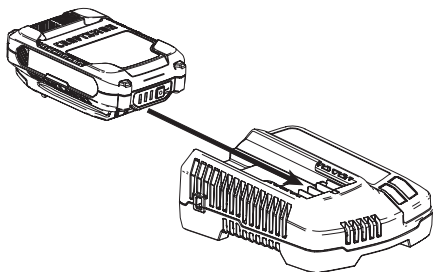

Figure 45
**IMPORTANT!** Refer to instructional manual supplied with battery charger for charging, maintenance and battery disposal instructions (Figure 45).